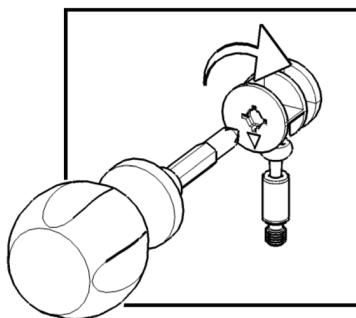

Figure 5
Place Top (A) onto the unit and attach with Cam Locks. (see Figure 5)